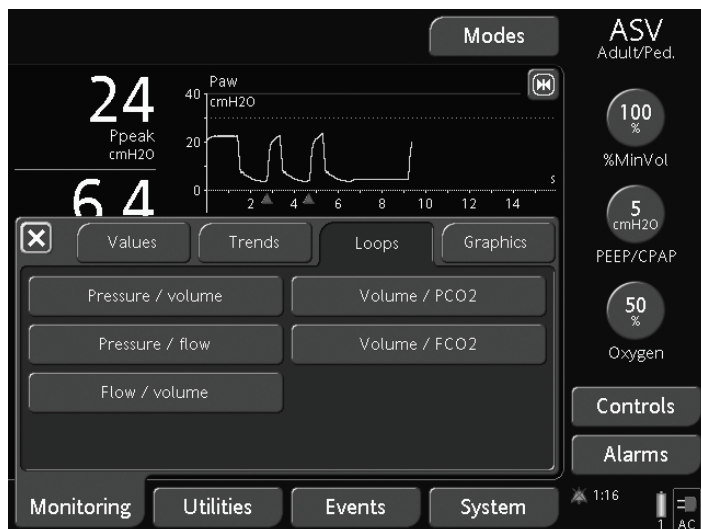

Figure 6-10. Loop window
The Hamilton-C2 can display a dynamic loop based on the following parameter combinations (Figure 6-10):
1. Press the loop reference button to store the loop curve with the current date and time. The past and actual characteristics are shown (Figure 6-10).